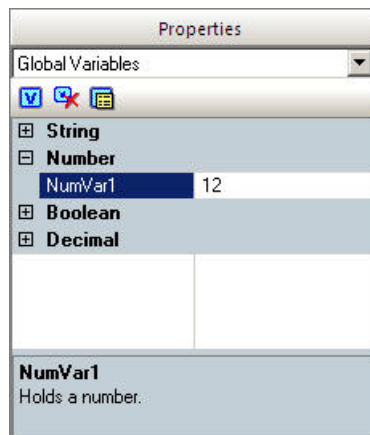

FIG. 243 CodeBuilder - Properties Tab
2. Click the plus-sign next to any of the variable types in the Properties tab to expand the view to show all variables that have been defined per type (FIG. 243).